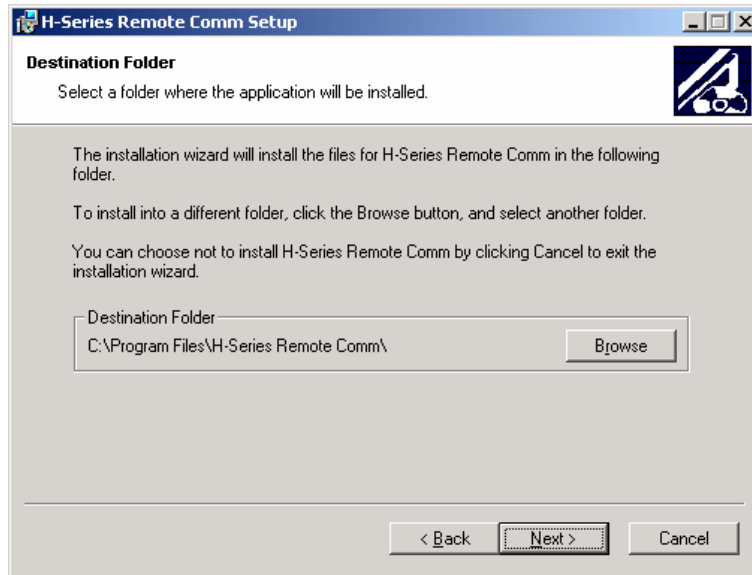

Figure 62 Second Screen in Installation Wizard
5. Select a folder where the software application will be installed. (Refer to Figure 62.) Click “Next>” to continue to the next screen.